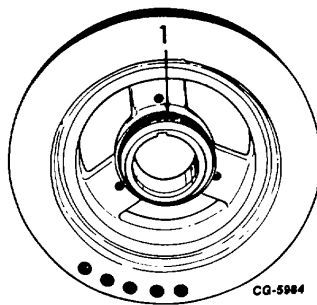

Figure 20. - Wear Sleeve on Vibration Damper (Three-Hole Damper Shown)
3. Inspect the oil seal wear sleeve (1, Fig. 20) visually. Examine for wear, nicks and scratches.